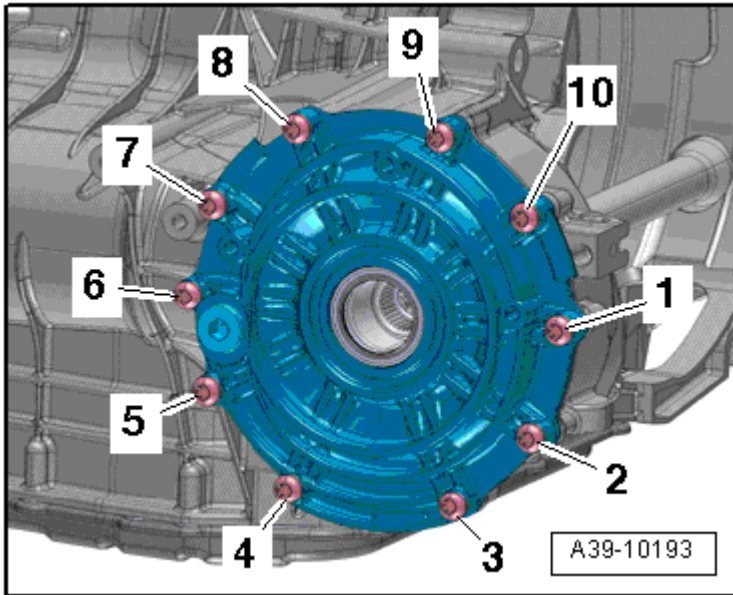

Fig. 2: Tightening Specification And Sequence, Front Final Drive Cover
- Tightening specification and sequence, refer to **Fig. 2**